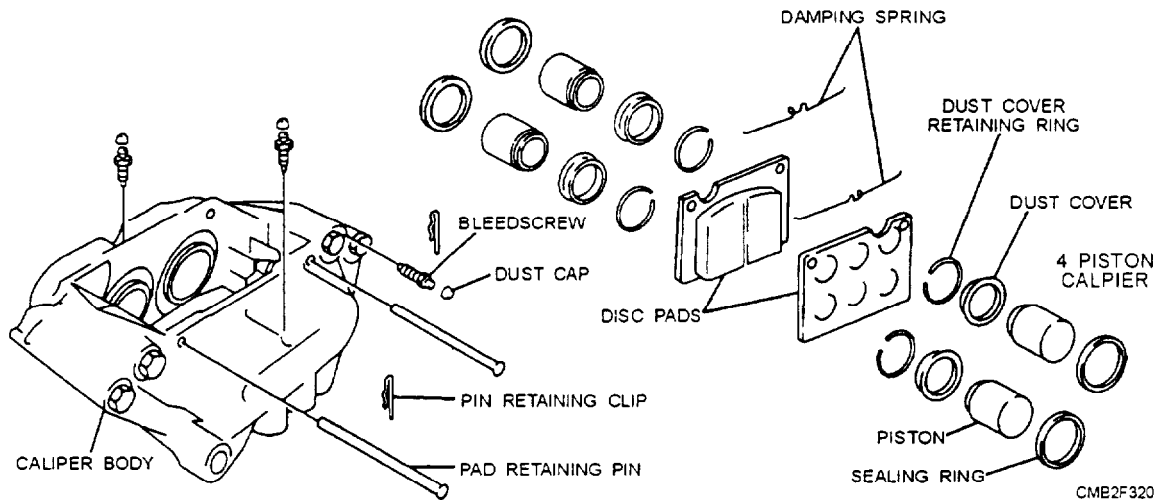

Figure 7-19.—Fixed multipiston caliper.
**FIXED CALIPER.**—The fixed caliper disc brake (fig. 7-19) is rigidly mounted to the spindle or splash shield. In this design, the caliper usually is made in two pieces and has two or more pistons in use.